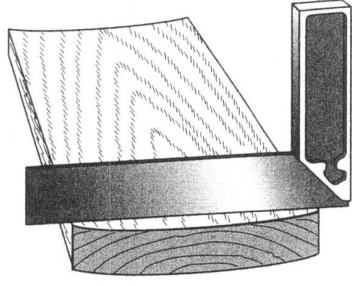

Fig. 7-2
- _____ 13. The type of warp shown in Fig. 7-2 is a _____.